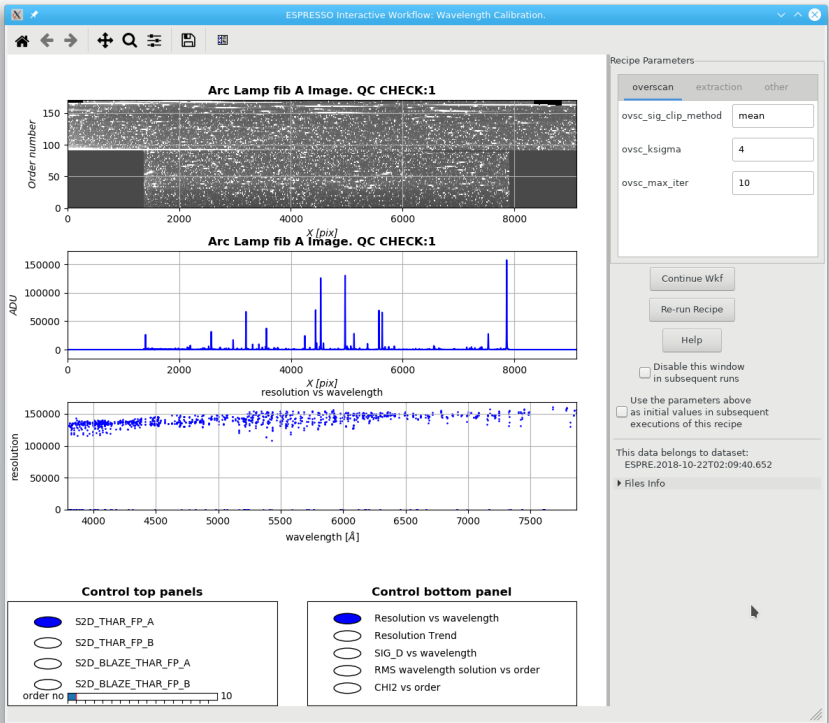

Figure 7.7.1: Wavelength Calibration (THAR,FP) Interactive workflow.
This interactive workflows shows at the top an image corresponding to the stacking of the extracted Fabry Perot an ThAr spectra from both detectors, end to end (S2D format, see Figure 7.7.1) for fibre A in S2D format (THAR,FP). The user may display similar images for the fibre B (FP spectrum) or for the extracted blaze spectrum for fibre A or B. In the middle, the GUI shows the extracted spectrum corresponding to the image at the top and to the order number shown in the horizontal slider. At the bottom, the GUI shows the scatter plot of the resolution versus wavelength. Alternatively the user may display an image of the resolution trend in different detector positions (this is shown with a different color scale). Alternatively, the user may display the effective Fabry Perot cavity length (D) measured by the pipeline or its sigma, versus wavelength (LL), or the RMS of the wavelength solution versus the order number, or the computed CHI2 versus the order number.